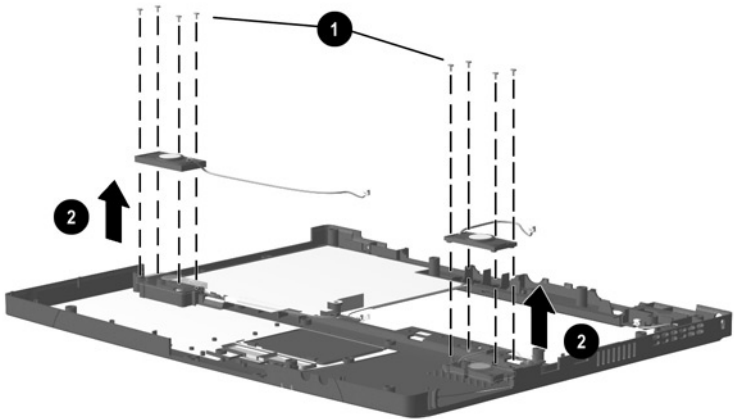

Figure 5-14. Removing the Speakers
5. Remove the eight silver M2 × 5.5 screws ❶ that secure the speakers to the top cover (Figure 5-14).
6. Remove the speakers from the top cover ❷.